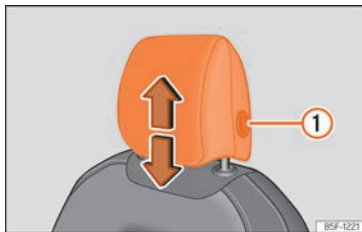
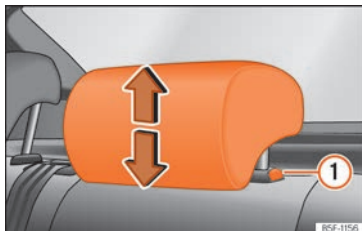

Fig. 114 Front seat: headrest adjustment.
Fig. 115 Rear headrest: headrest adjustment.
- Grab the sides of the headrests with both hands and push upwards to the desired position. To lower it, repeat the same action, pressing the ① » Fig. 114 » Fig. 115 button on the side.
- Press the side button » Fig. 114 ① and remove the headrest.